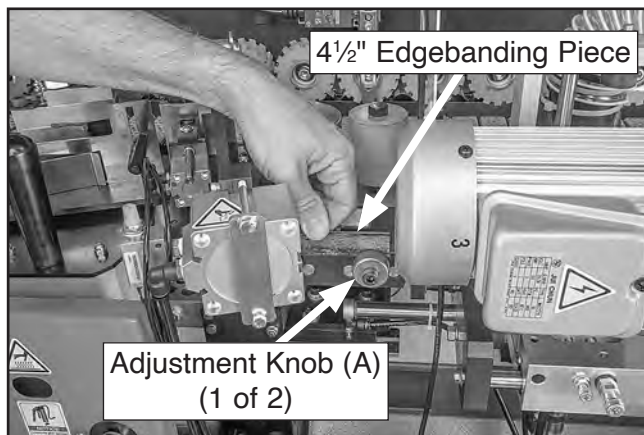

Figure 53. Installing edgebanding into pressure roller adjustment knobs.
5. Cut 4½" piece from end of edgebanding coil and insert behind pressure roller adjustment knobs (A), then tighten knobs so they are snug against edgebanding, as shown in **Figure 53**.